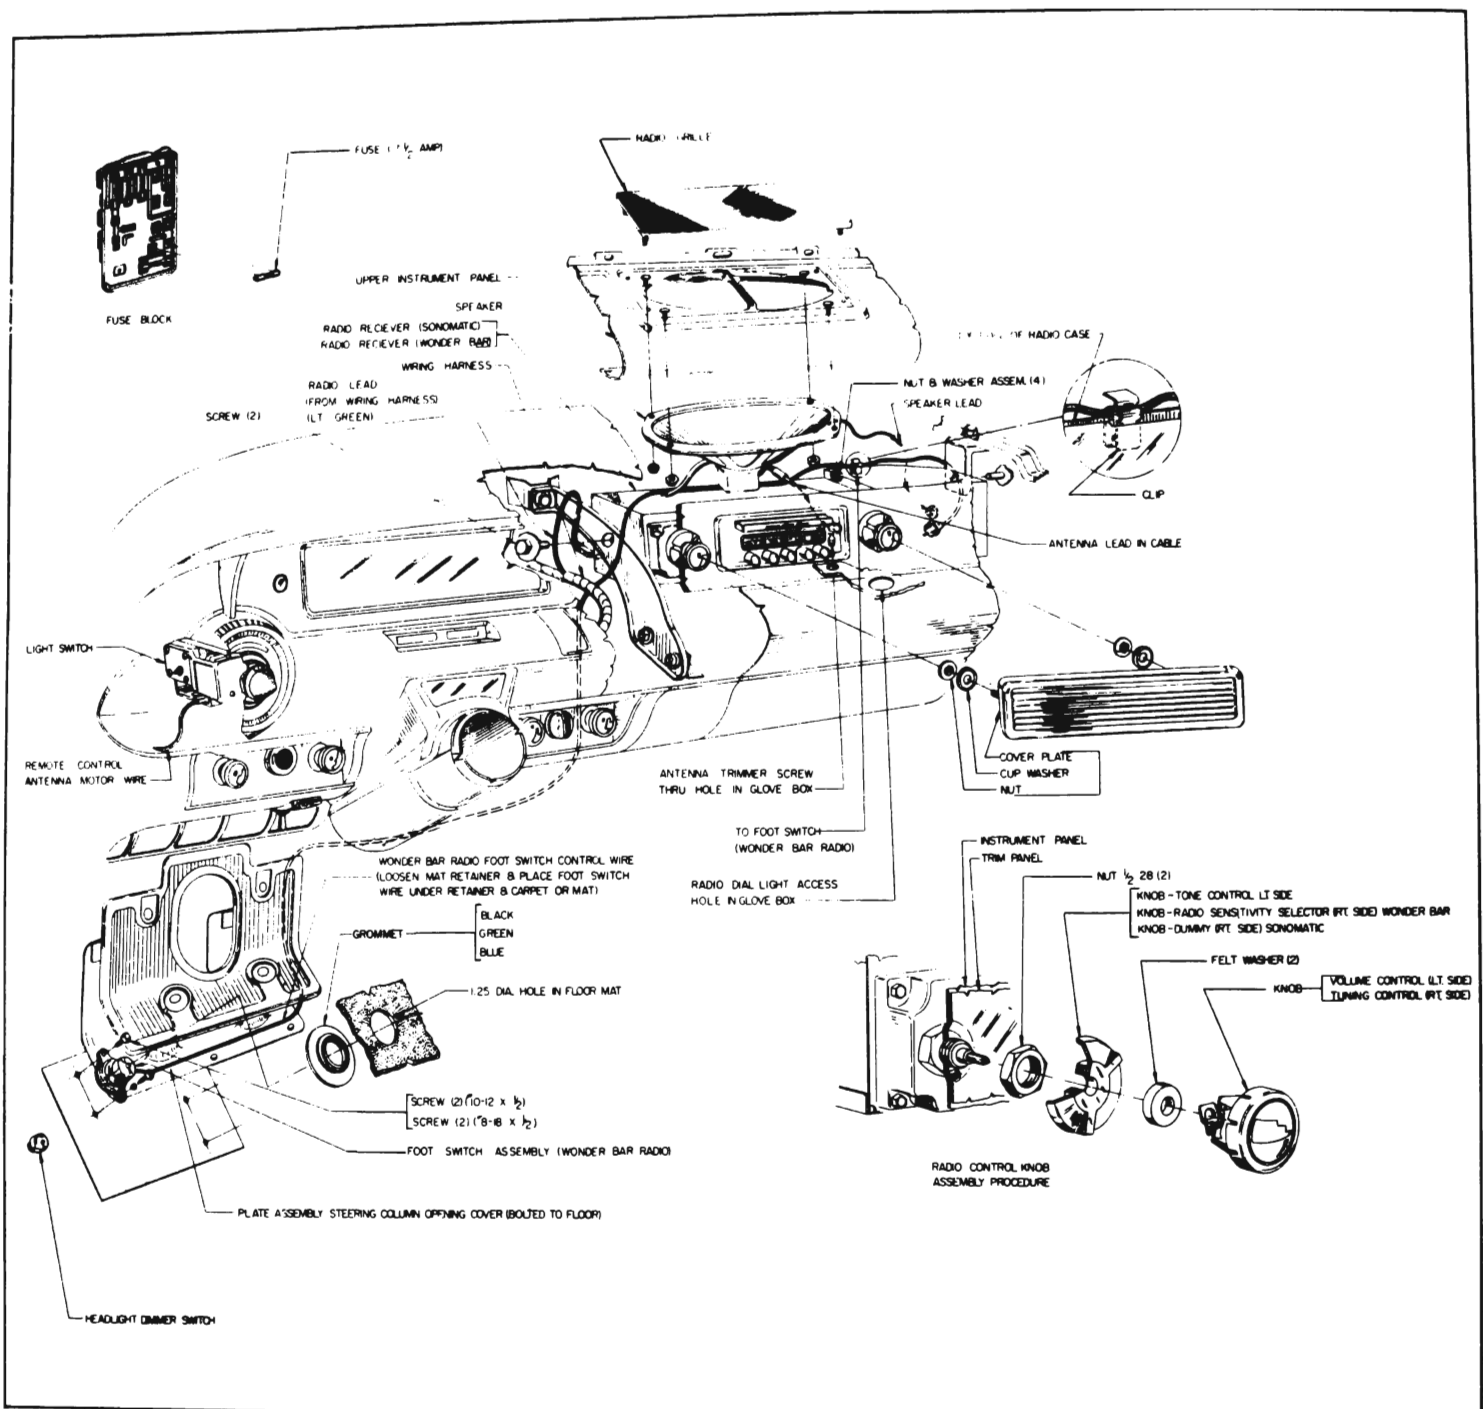

Figure 11-2—Receiver Installation
3. Open glove box. Insert a screwdriver up through the opening and into receiver adjacent to the lead-in cable (fig. 11-2). Carefully turn the trimmer screw back and forth until a position is found that gives maximum volume.
4. Install tone control knob and volume control knob with felt washer on shaft to *left* of the dial. Install dummy knob (Sonomatic) or sensitivity knob (Wonderbar) and tuning control knob with felt washer on shaft to *right* of dial. See figure 11-2.
5. Connect the radio lead cable to the fuse block. Install proper fuse (par. 10-5, b) in fuse clips and connect radio lead cable to lead at left lower corner of receiver. See figure 11-2.
6. If Wonderbar foot control was disconnected or removed, reinstall with cable running up behind right edge of steering column pad. Plug cable into receiver and attach it to clip on receiver. See figure 11-2.